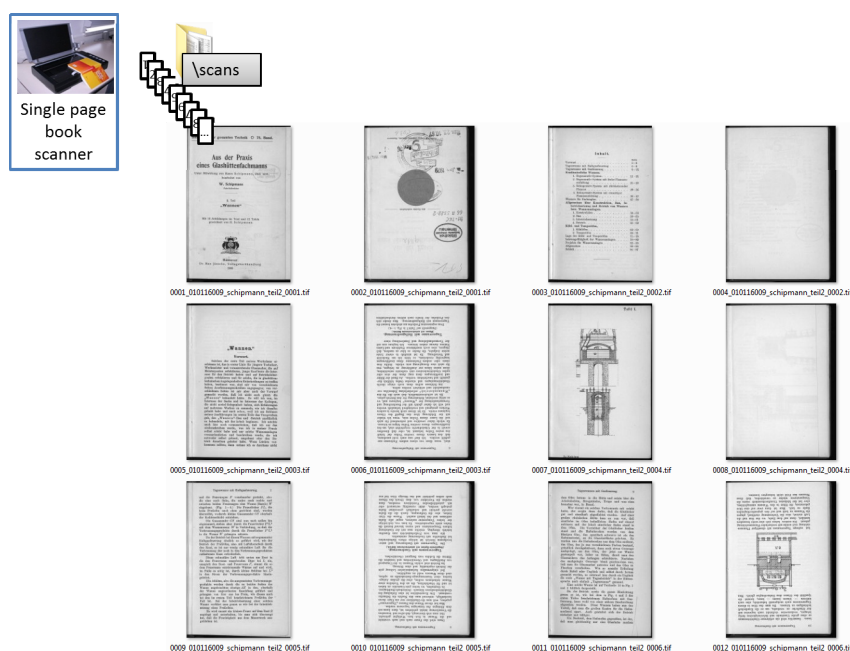

Figure 18 - All pages are renamed, merged and ready for processing
- **Check the correct order** randomly with a picture viewer like *IrfanView*, but at least the first five pages, five pages from the middle and five pages at the end of the document. The page numbers have to be in the correct order at any position in the document (Figure 18). Otherwise you have to find out the reason. (Often not scanned blank pages causes problems on merging odd and even pages)